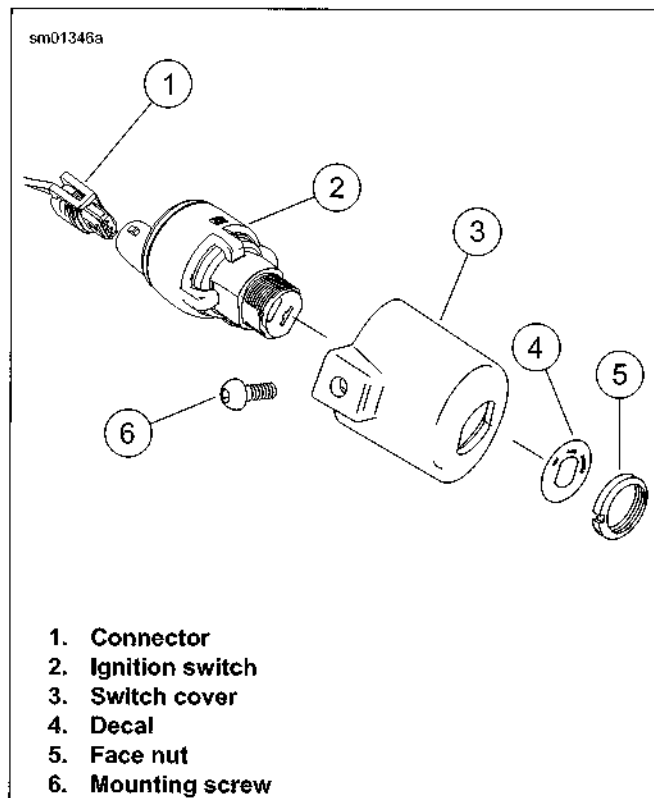

Figure 6-25. Ignition Switch
5. See Figure 6-25. Remove ignition switch face nut (5).
6. Remove mounting screw (6). Remove switch cover (3).
7. Separate connector (1) from switch.
1. See Figure 6-25. Mate connector (1) to switch.
2. Insert ignition switch into the switch cover (3) with the word TOP stamped on the switch body facing upward. Loosely install face nut (5).
3. Install mounting screw (6). Tighten to 35-45 in-lbs (4.0-5.1 Nm).
4. Tighten face nut (5) to secure switch (2) within cover (3). Tighten to 72-96 in-lbs (8.1-10.8 Nm).